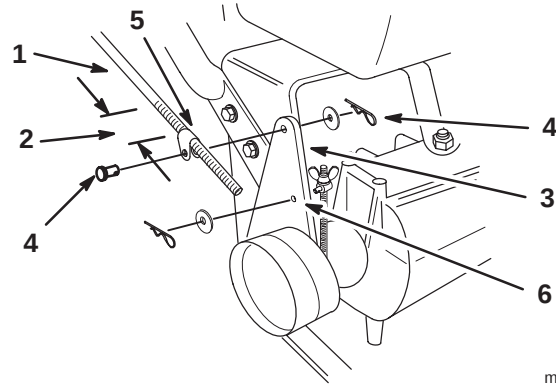

Figure 22
1. Remove hairpin cotter, washer and clevis pin securing control rod fitting to idler bracket (Fig. 22).